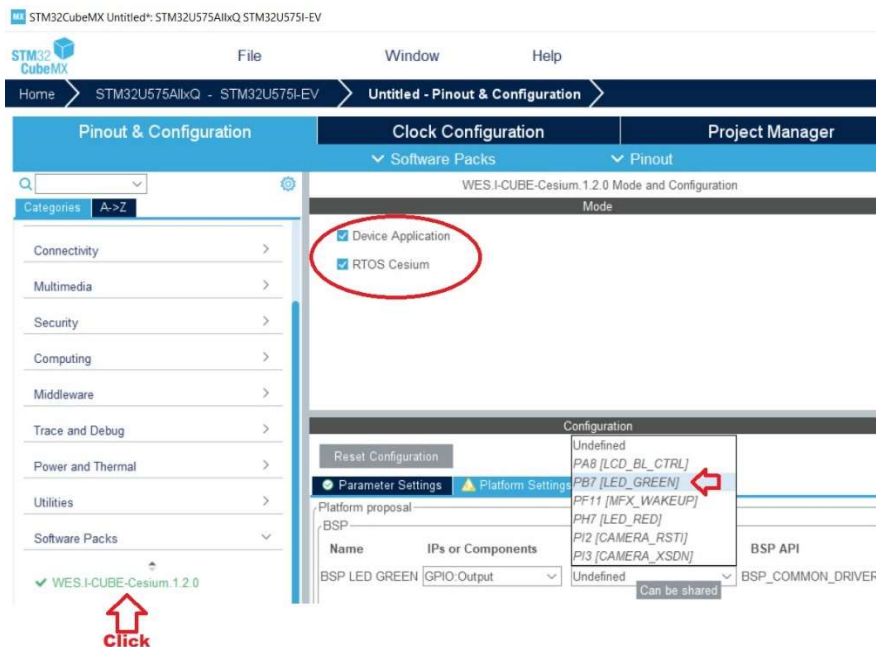

Figure 3.4 – Pinout & Clock Configuration
- c) After completing the previous step, a new category called “**Software Packs**” will be created in the “**Pinout & Configuration**” tab. Click on the “**WES.I-CUBE-Cesium**” option as shown in Figure 3.4 and select the check boxes for “**Device application**” and “**RTOS Cesium**”. Selecting the “**Device Application**” option will allow the user to add the required API to toggle an LED on the board.
The final piece is to enable the GPIO that will control the LED on board. The code snippet provided is only an example for the STM32U575I-EV board. The user can adapt it based on the LED selection shown in Figure 3.4.